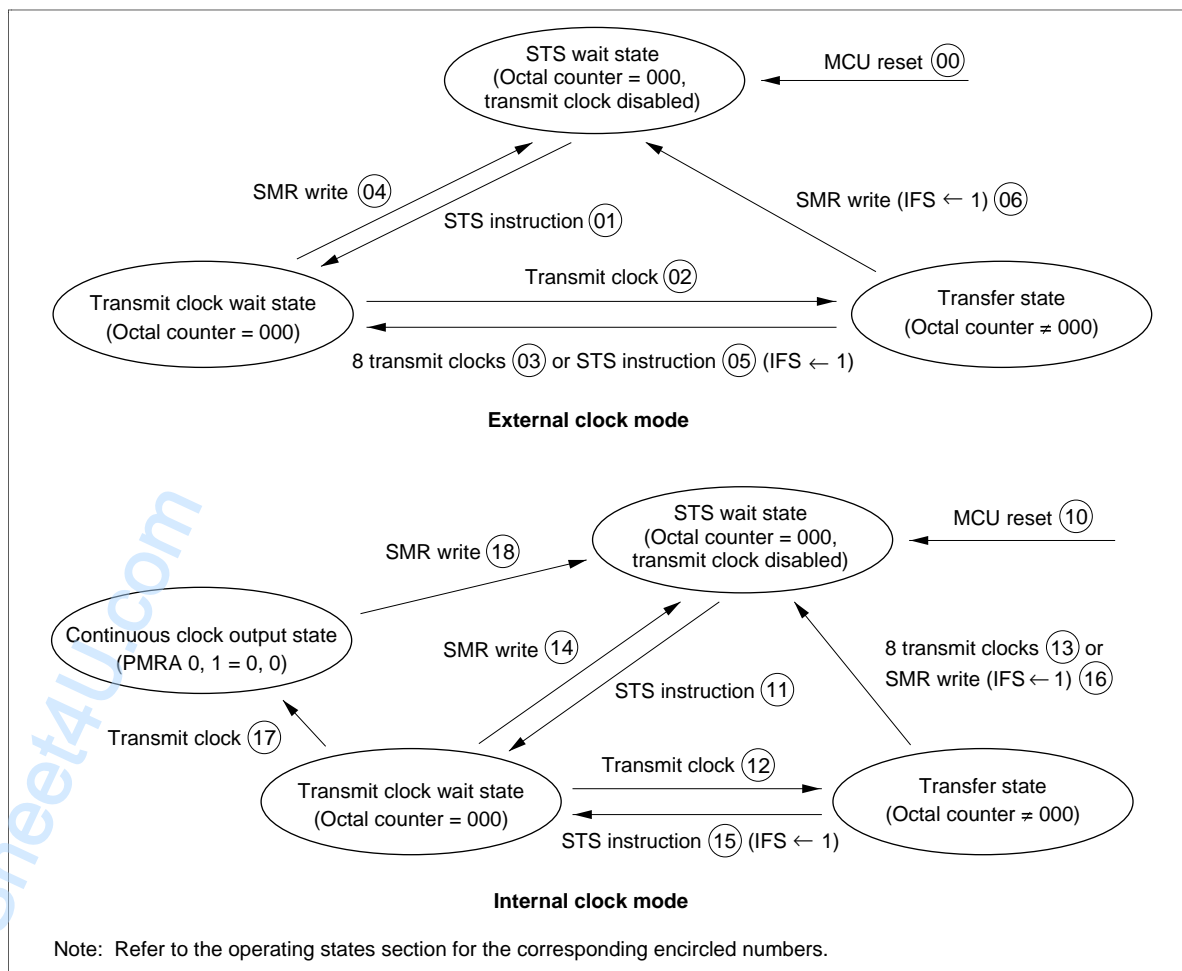

Figure 42 Serial Interface State Transitions
Serial Interface Operating States: The serial interface has the following operating states shown in figure 42, both in external clock mode and internal clock mode.
- **STS wait state:** The serial interface is put into the STS wait state by an MCU reset (00, 10 in figure 42). While in this state, the serial interface is initialized and does not operate, even if a transmit clock is provided. If an STS instruction is executed while in this state (01, 11), the serial interface transfers to the transmit clock wait state.
- **Transmit clock wait state:** Transmit clock wait state period starts from when an STS instruction is executed until the first transmit clock falling edge. While in the transmit clock wait state, if the transmit clock is input (02, 12), the octal counter is incremented by the transmit clock, the data in the serial data register shifts, and the serial interface enters the transfer state. However, note that if continuous clock output mode is selected in internal clock mode, the serial interface does not enter transfer state but enters continuous clock output state (17).